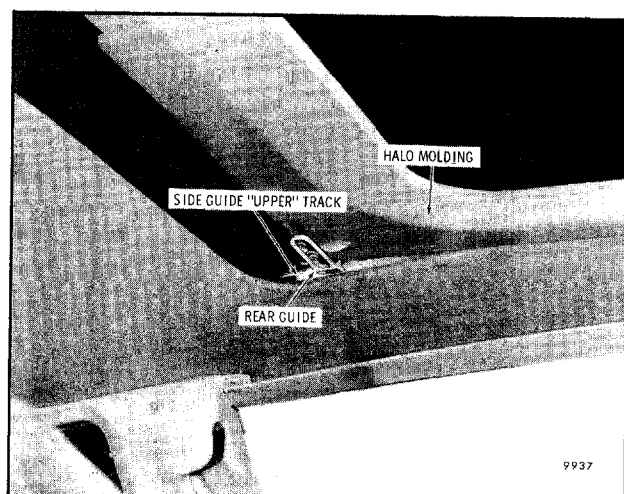

Fig. 8-105-Rear Halo Molding Guides in Side Guide Track - C Styles
4. Pull front of halo molding down and forward so that rear halo molding guides are visible (Fig. 8-105).